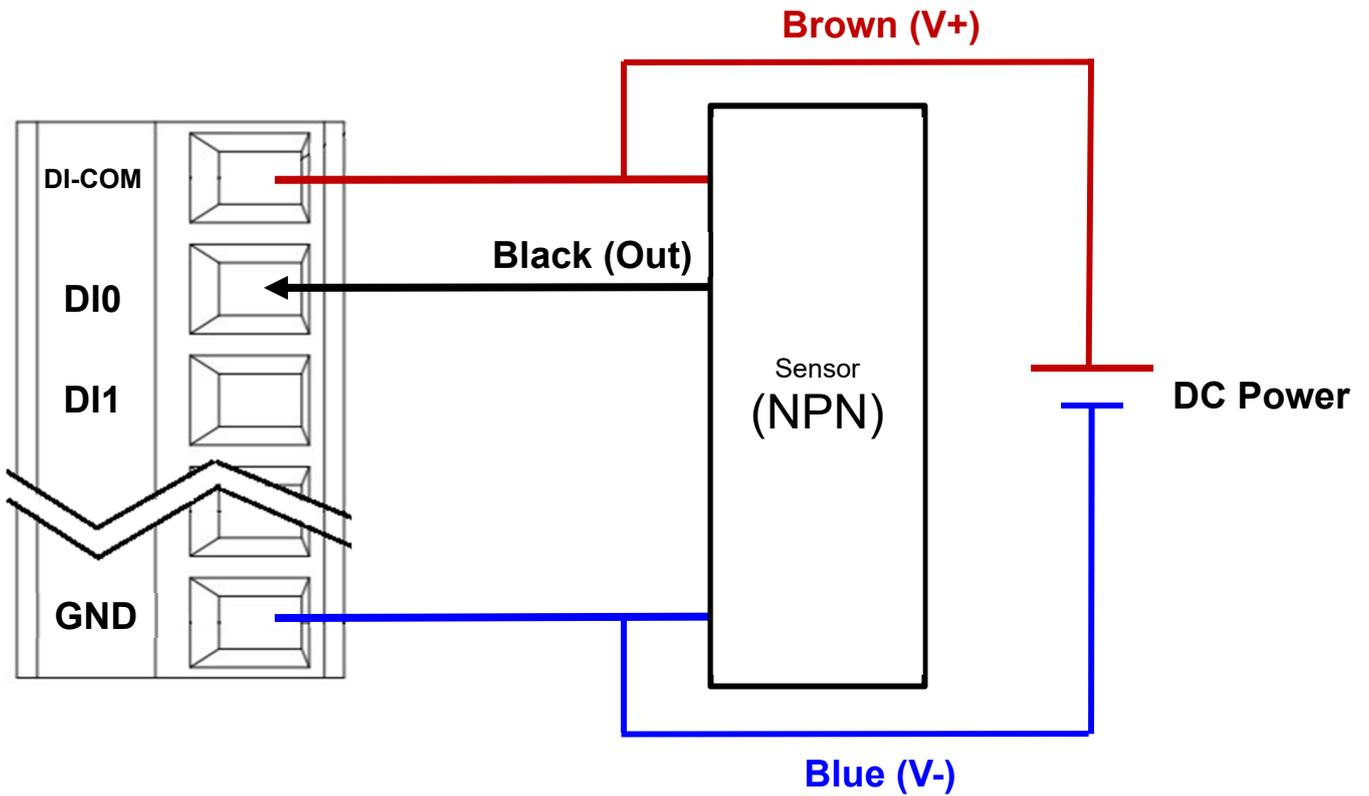

Figure 4.14 - Wiring of DI (Digital Input) Wet Contact (NPN)
Figure 4.14 shows an example of digital input (DI) wet contact (NPN) in which the digital input 0 (DI0) channel is typically connected to a 3-wire NPN sensor. Note that 3-wire NPN sensors are those industrial solid-state sensors that often have transistors inside that send or switch out digital signal as their output. The wiring of NPN sensor and external DC power supply can be shown as in Figure 4.14. The positive voltage (V+) can be the brown color, the output of the NPN sensor can be black that is connected to the digital input 0 (DI0) of the IO5202, and the ground signal of NPN sensor, GND channel on the DI port, and the negative voltage (V-) of DC power can be wired together as blue color.